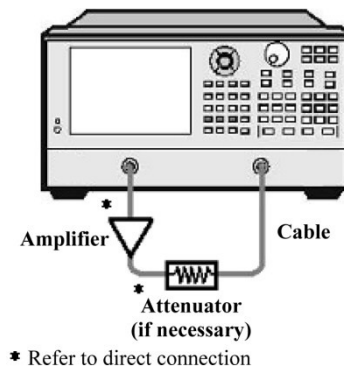

Figure 8.23 Small signal gain and flatness measurement connection
- 5) As shown in Figure 8.23, connect the amplifier and provide the amplifier with DC bias.